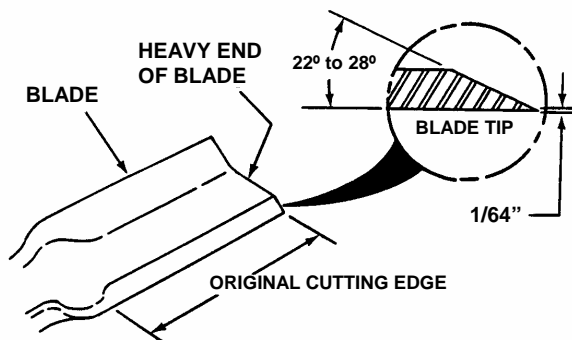

FIGURE 5.5
5. Should Blades be in acceptable condition, sharpen at 22 to 28 degrees. See Figure 5.5.